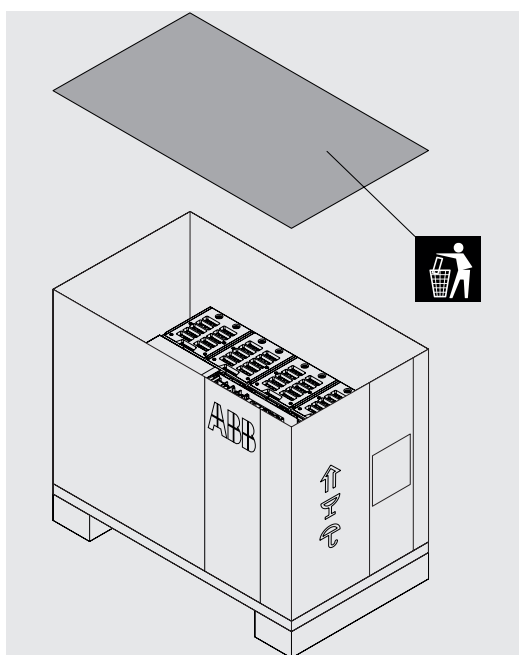

Figure 9
2. Open the upper part of the packing box. See Figure 9.